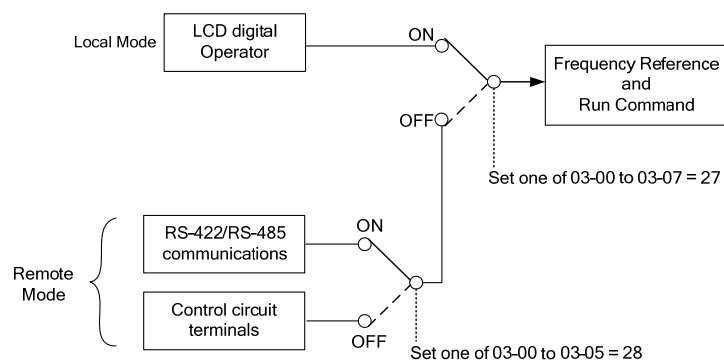

Figure 4.3.23 Remote mode operation selection
(30) Local/Remote selection (03-0X=28)
- When one of 03-02~03-05=28 (Remote mode selection) · inverter can switch between external terminal source (S1~S6) or communication (RS-485) source. Please refer the figure 4.3.23 ·